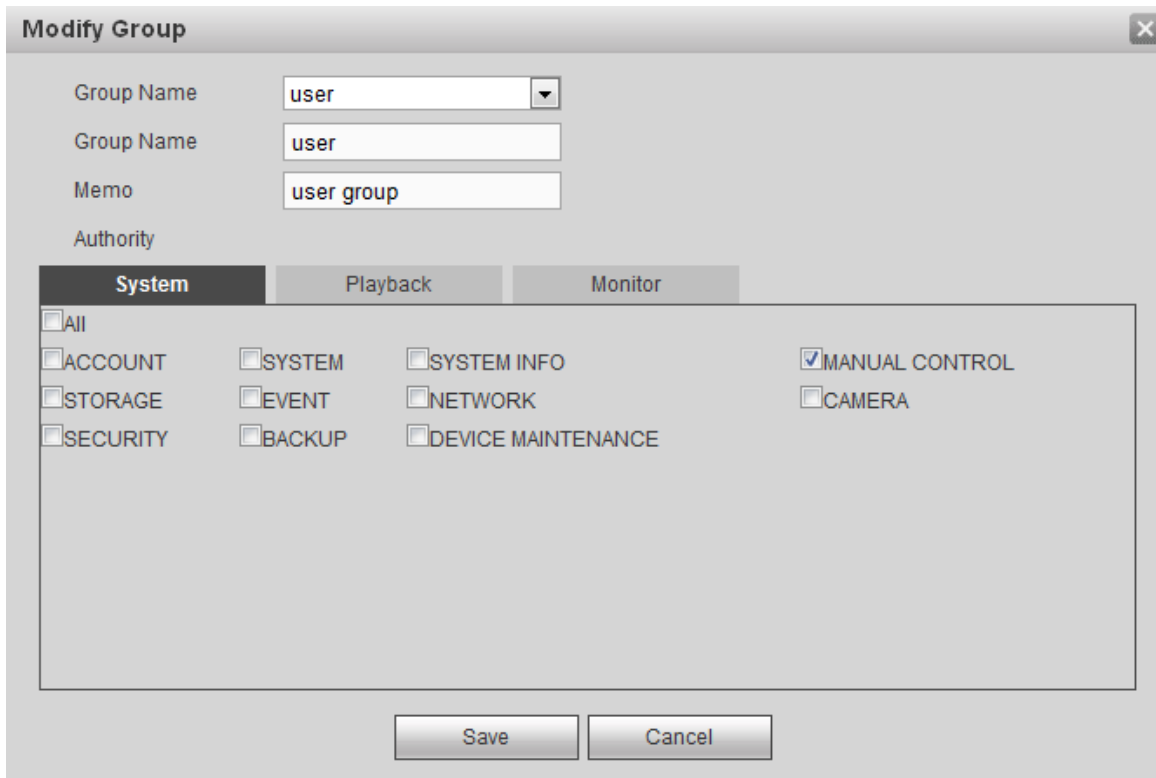

Figure 5-131
Step 1 Select a group and then click . See Figure 5-131.